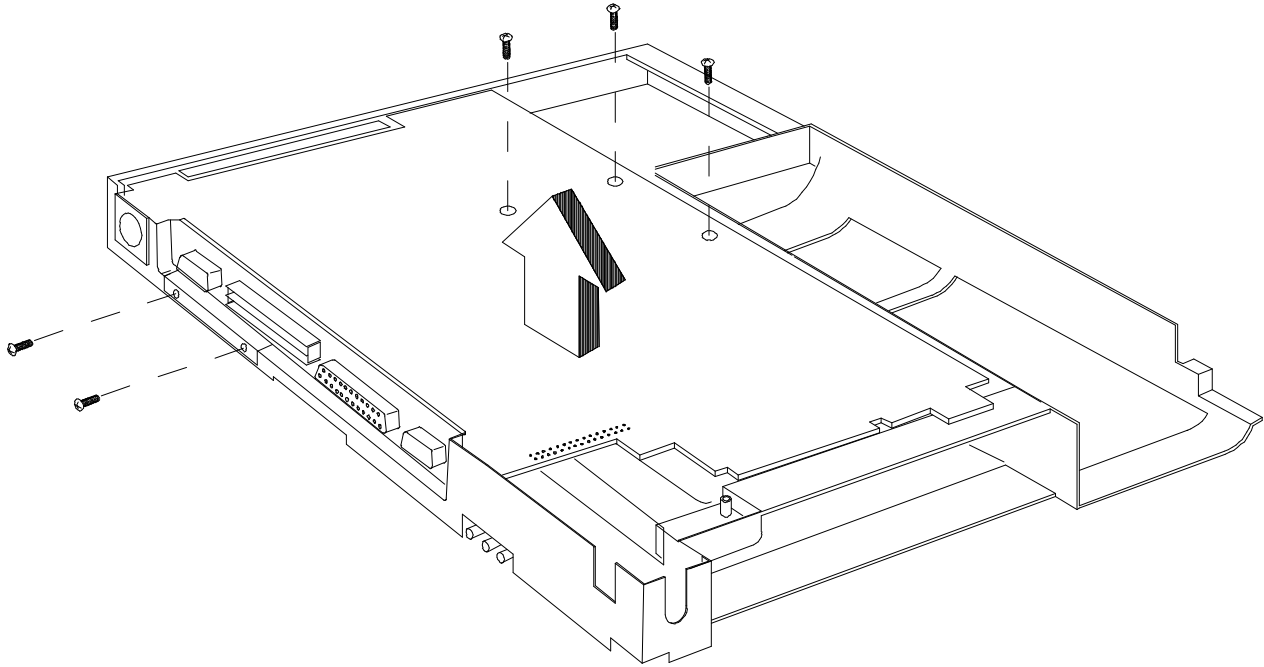

Figure 6-23 Detaching Motherboard from Inside Frame Assembly
5. Remove the five screws that secure the motherboard to the inside assembly frame. Pull up on the Motherboard Assembly to release it from the inside assembly frame (refer to Figure 6-23).